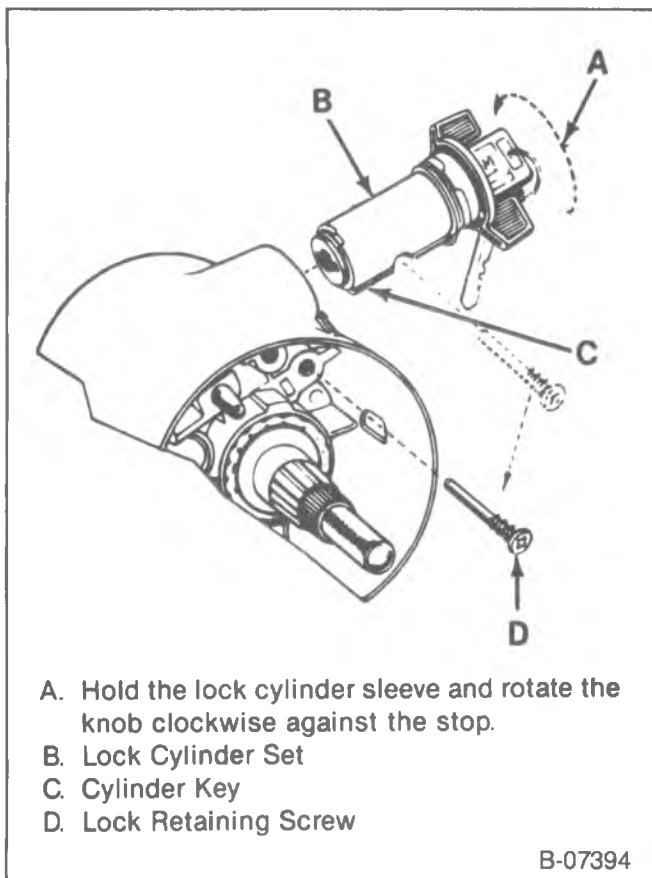

Figure 15—Lock Cylinder Installation
↔ Remove or Disconnect (Figure 15)
↔ Install or Connect (Figure 15)
- Align the cylinder key with the keyway in the housing. Rotate as shown in figure 15.